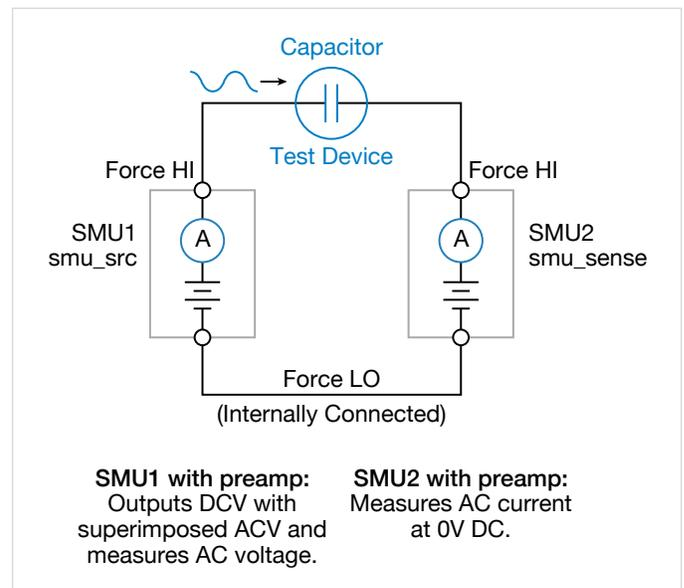

Figure 1. Connections for very low frequency C-V measurements.
**Figure 1** is a simplified diagram of the SMU instrument configuration used to generate the low frequency impedance measurements. This configuration requires a 4200A-SCS system with two SMU instruments installed, with 4200-PA preamps connected to either side of the device under test. SMU1 outputs the DC bias with a superimposed AC signal and also measures the voltage. SMU2 measures the resulting AC current while sourcing 0V DC.
To make VLF C-V measurements on a device, connect the DUT between the two Force HI terminals of two SMU instruments (either 4200-SMU or 4210-SMU) with 4200-PA Preamps (**Figures 1, 2**). The preamp option is necessary because measuring very high impedances requires measuring very small currents. With the 4200-PAs, currents of  $<1E-12A$  can be measured. Because the VLF C-V method requires measuring small currents, it is best to use the triax cables that come with the SMU instruments to make these connections. The method does not support any switching instrumentation between the SMU instrument preamp and the device under test (DUT). One SMU outputs both the DC and AC voltage (SMU1 in **Figures 1 and 2**) and measures the AC voltage. The other SMU instrument measures the AC current (SMU2 in **Figures 1 and 2**). The SMU instrument used